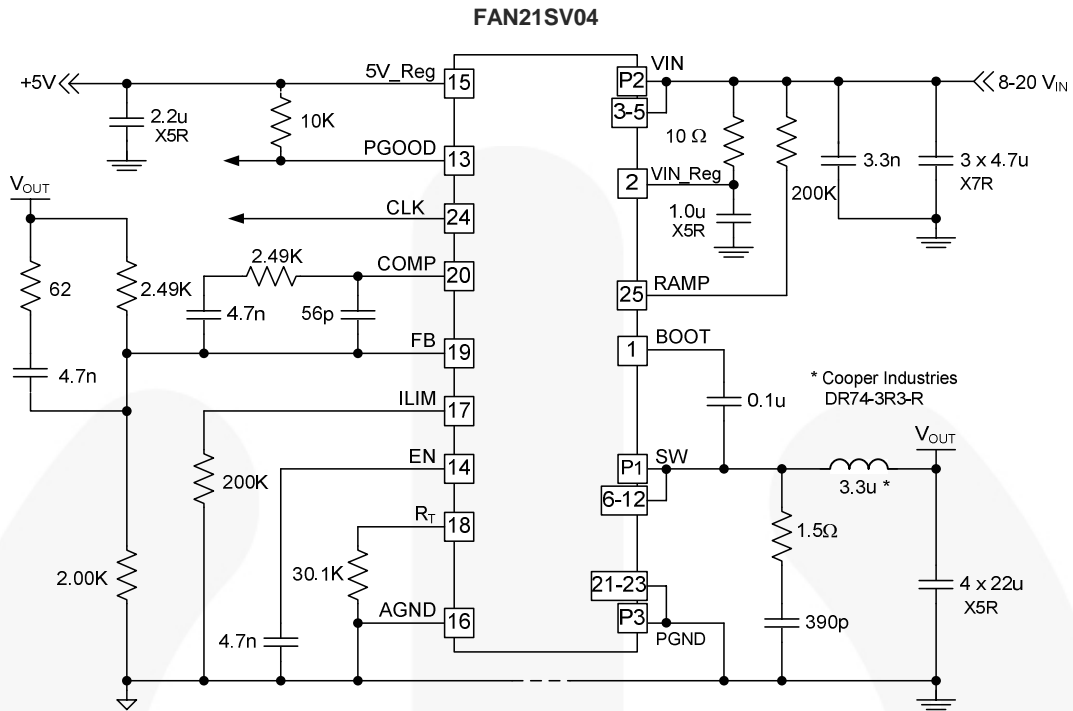
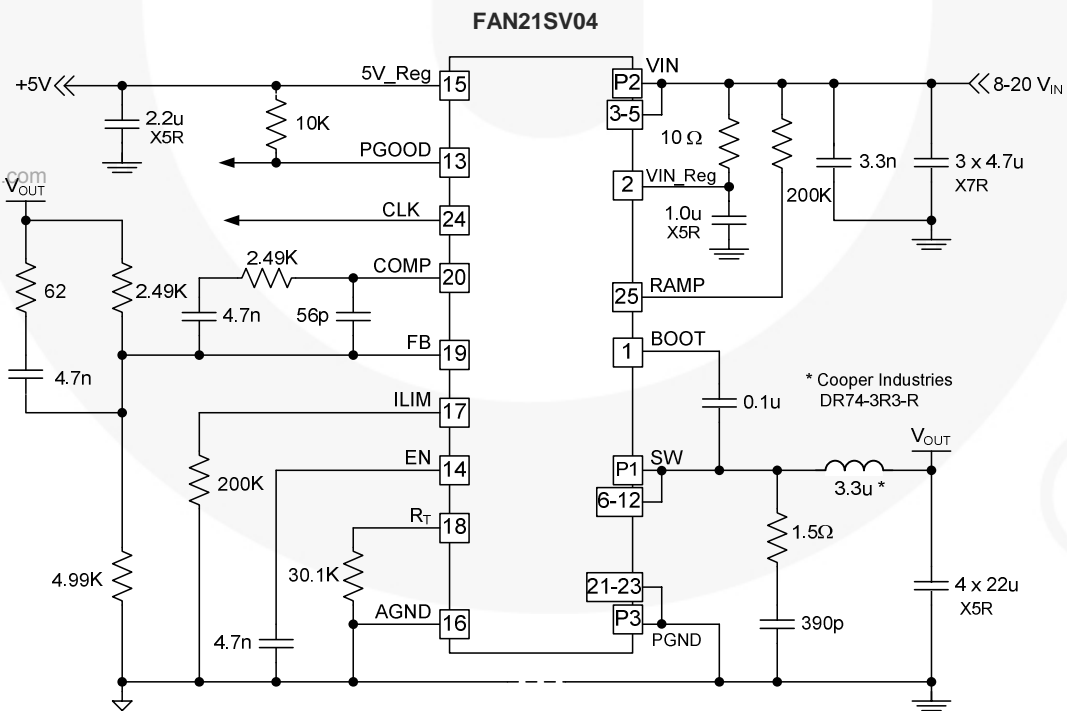

Figure 10. Single-Supply Application Circuit: 1.8V_{OUT}, 500KHz, Master, 8V – 20V Input
Figure 11. Single-Supply Application Circuit: 1.2 V_{OUT}, 500KHz, Master 8V – 20V Input
Typical operating characteristics using the Figure 10 circuit; $V_{IN}=12V$, $V_{CC}=5V$, $T_A=25^{\circ}C$, unless otherwise specified.
4. Circuit values for this configuration change in Figure 10.
5. Circuit values for this configuration change in Figure 10.
Typical operating characteristics using the Figure 10 circuit. $V_{IN}=12V$ unless otherwise specified.
For applications with $V_{IN} < 6.5V$, FAN21SV04 can be used if V_{IN_Reg} is provided with a separate low-power source $>6.5V$. V_{IN_Reg} supply should come up after V_{IN} during dual-supply operation. The V_{IN_Reg} pin should always be decoupled with at least a 10Ω resistor and a $1\mu F$ ceramic capacitor (see Figure 10, Figure 11).